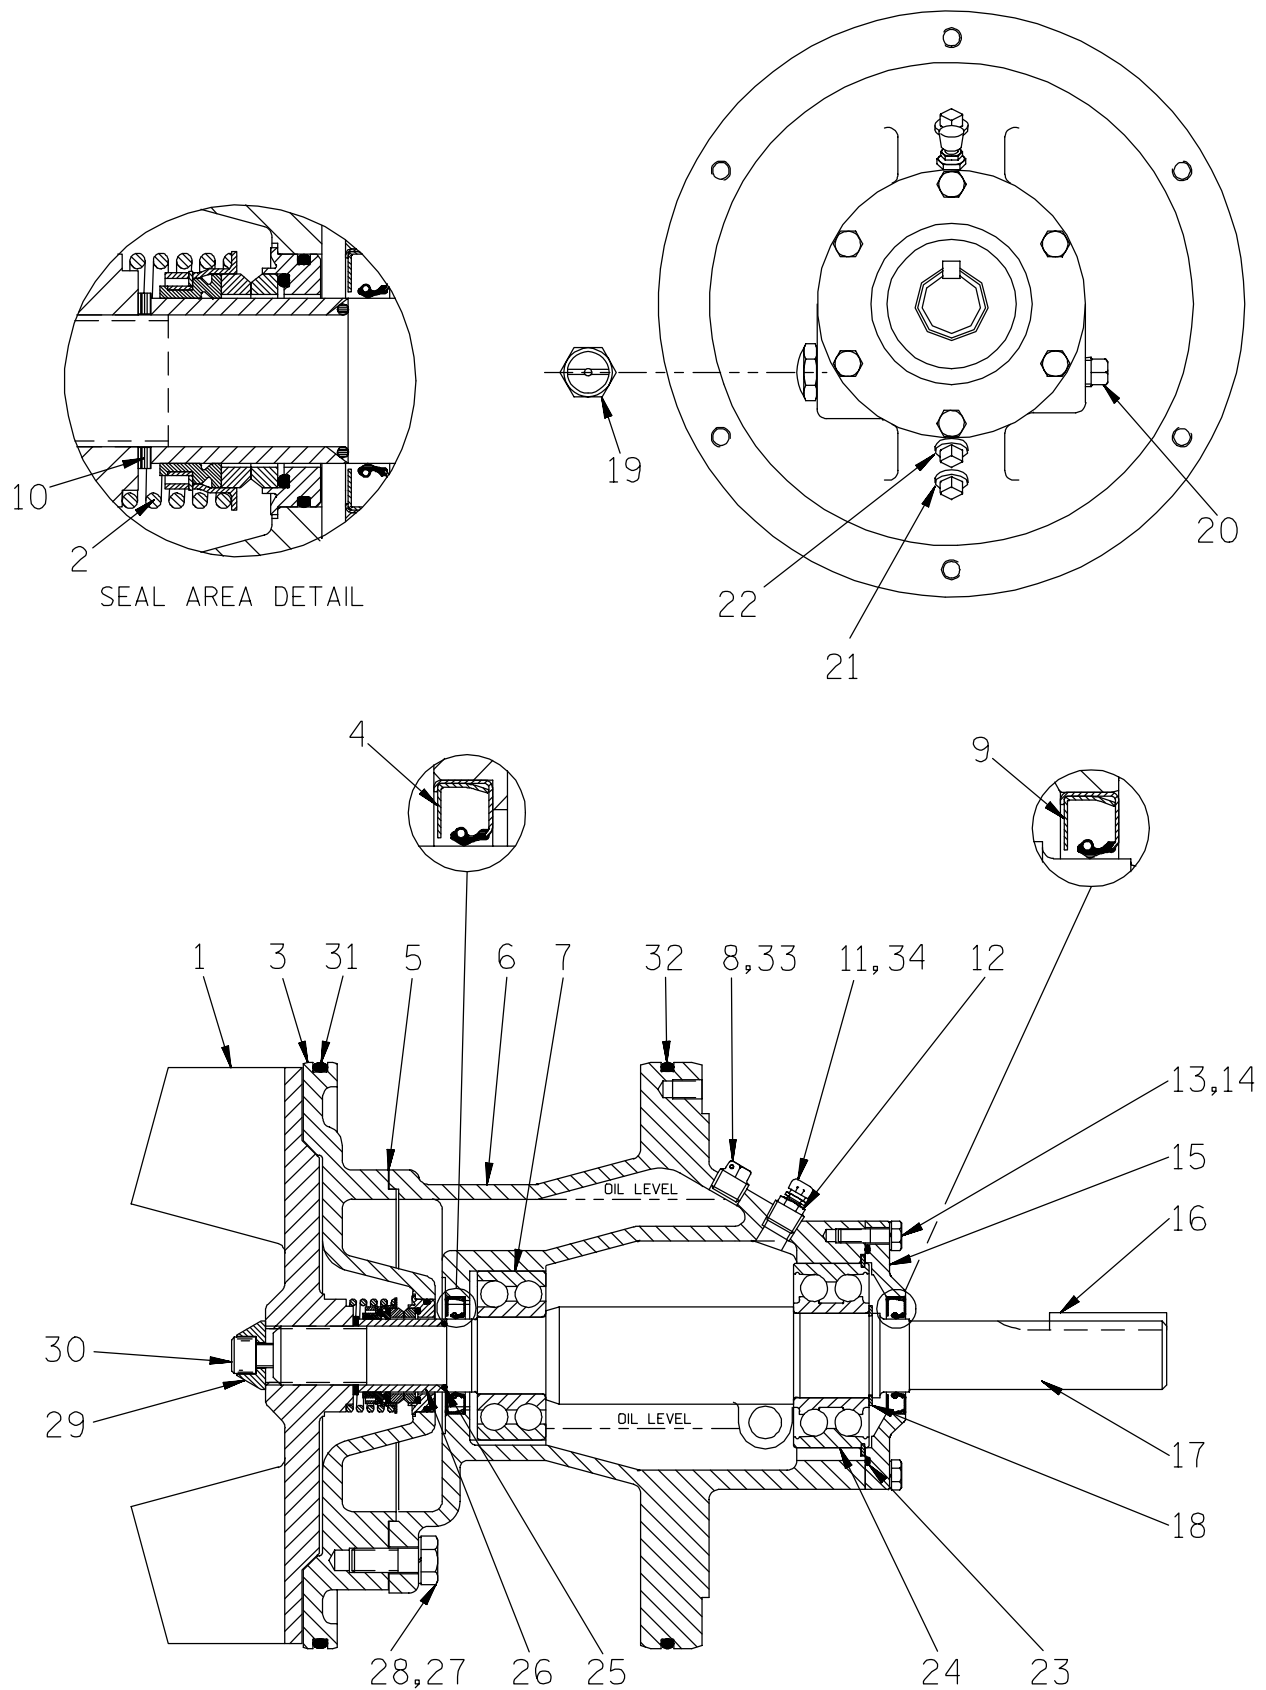

Figure 3. 44163-119 Repair Rotating Assembly
After the pump is removed, tie and tag any leveling shims used under the casing mounting feet for ease of reassembly. Remove the coupling half and shaft key (16, Figure 3) from the impeller shaft.
(Figure 3)